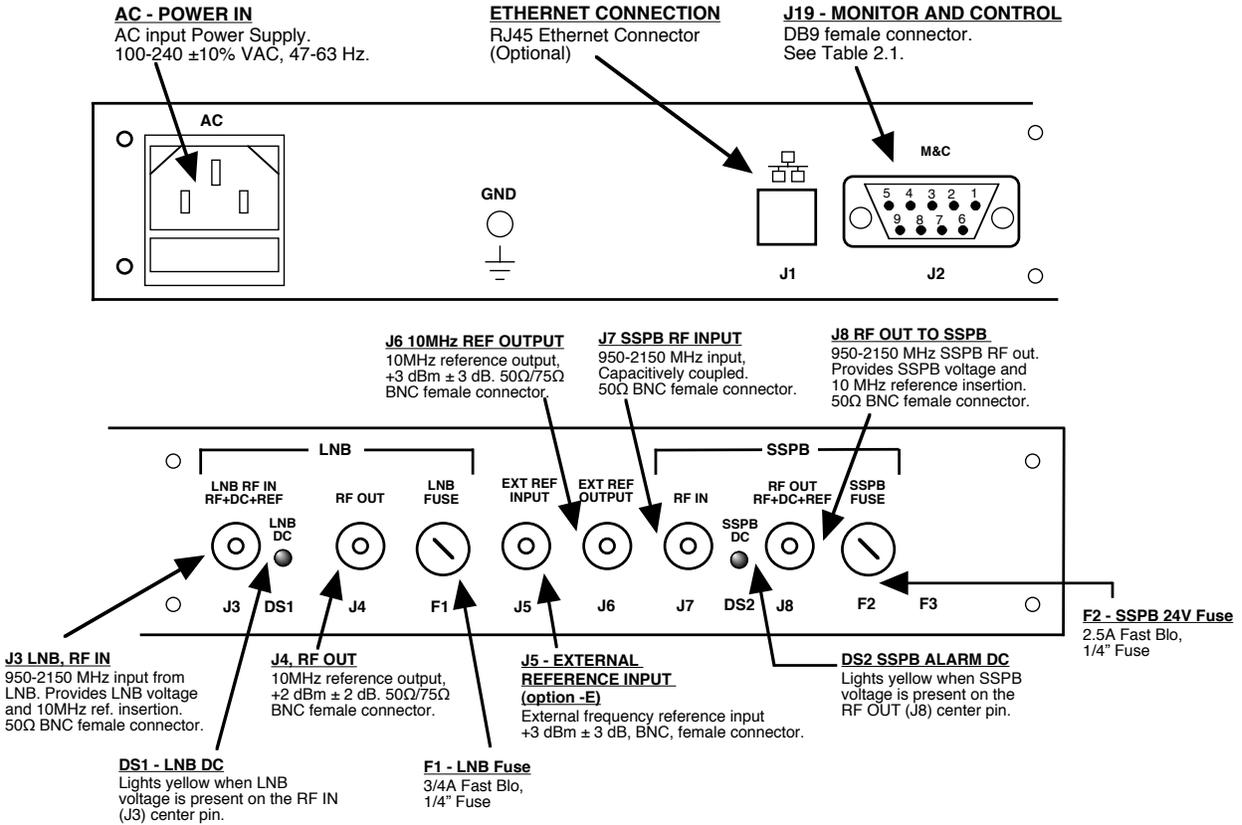

FIGURE 2.1 2099-1818 Rear Panel Outputs
2.2 Rear Panel Output Signals - Figure 2.1 shows the input and output connectors on the rear panel.
2. Connect 100-240 \pm 10% VAC, 47-63 Hz to AC connector (Figure 2.1).